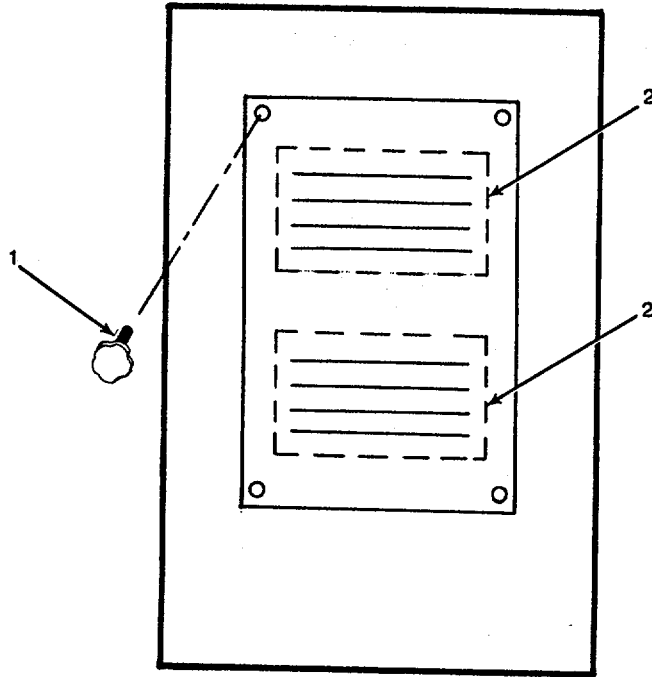

Figure 4-45. Door Fresh Air Filter
a. Inspect. (See Figure 4-45.)
- (1) Check fresh air door for proper installation and security.
- (2) Check filters (2) for dirt, cuts, tears.
- (3) Check filters (2) for correct installation.
b. Replace. (See Figure 4-45.)
- (1) Loosen hand knobs (1) and remove filters (2).
- (2) Clean filters (2) and reinsert.
- (3) Tighten hand knobs (1).
b. Replace. - Continued (See Figure 4-45.)'